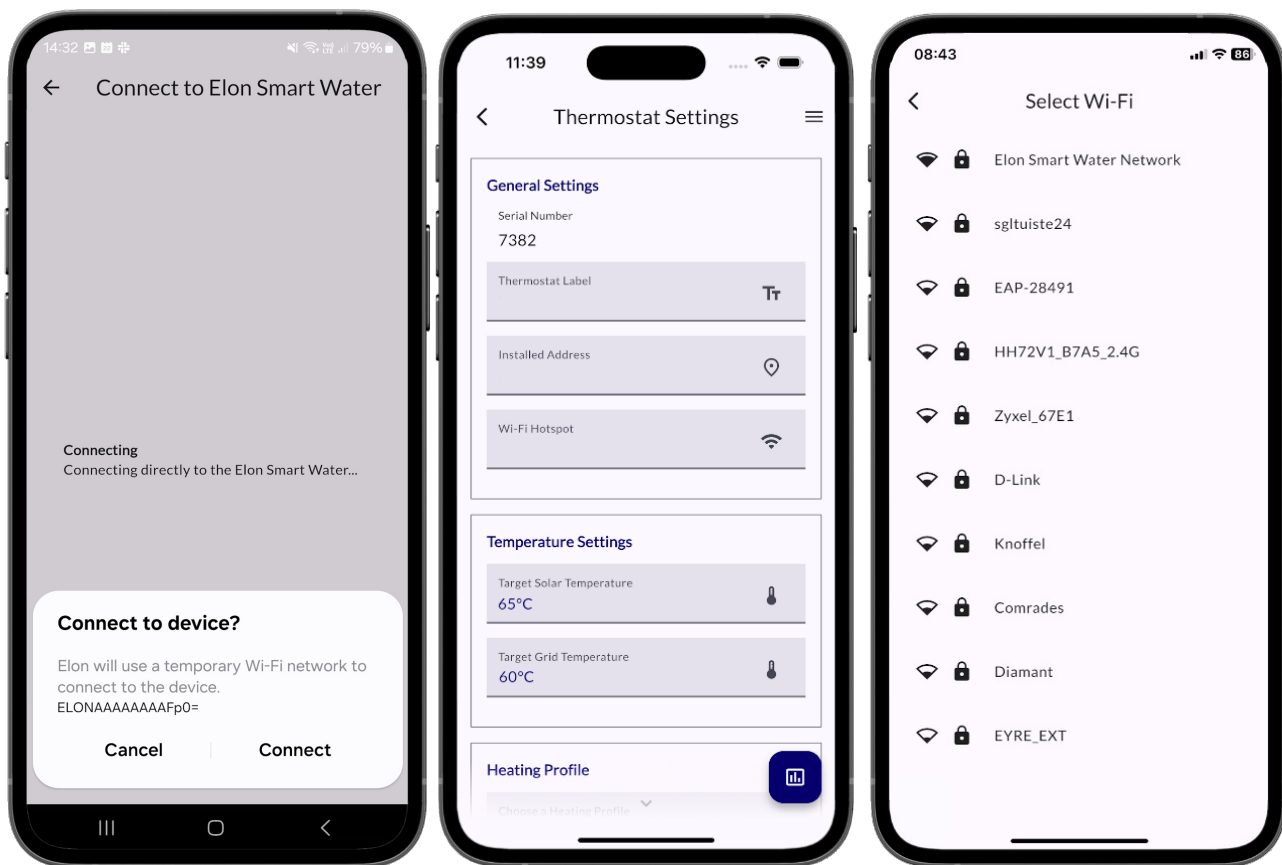

Figure A1 From left to right: Network change; Configure screen; Select Wi-Fi
3. The application requests confirmation to switch to the Smart Thermostat's hotspot **Figure A1**).
5. The application should display the **"Thermostat Settings"** screen (**Figure A1**)
7. The application searches for the available networks and displays them in a list **Figure A1**).